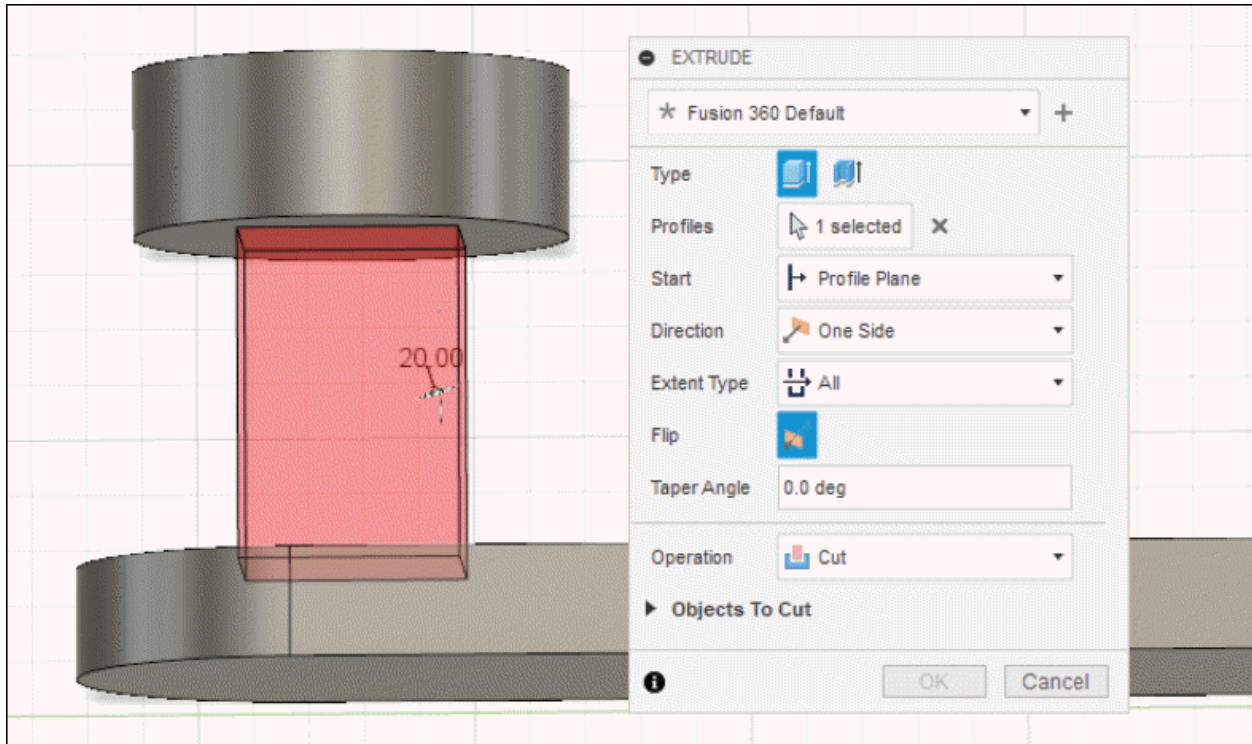

Figure-41. All tool in Extent Type drop down
- Select **All** option from **Extent Type** drop-down, if you want to cut through the model or part from extrusion. The extrusion will go through from the body of model; refer to Figure-41. If you want to add material in place of removing then select the **Join** option from the **Operation** drop-down in the dialog box.